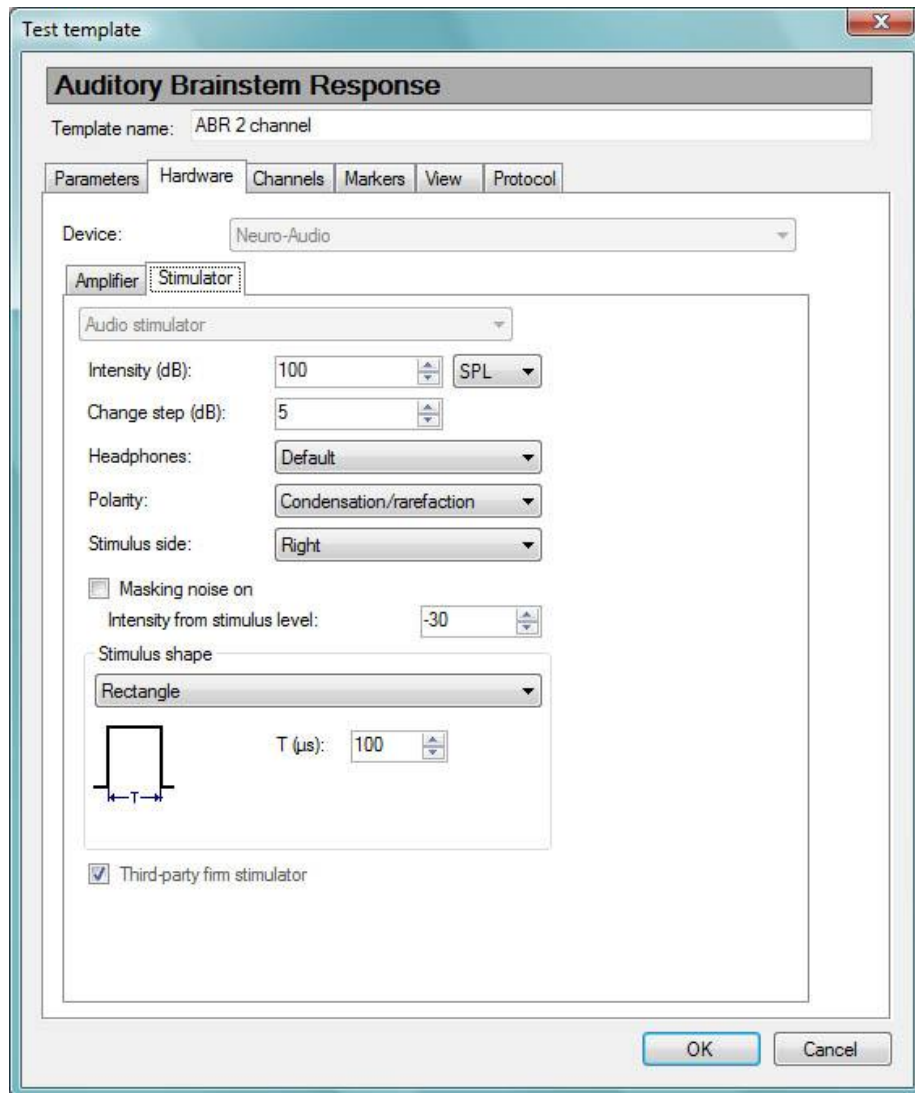

Fig. 23. The acquisition start from the external stimulator.
3. Run the program and check the *Third-party firm stimulator* checkbox on the *Hardware* tab (Fig. 23).